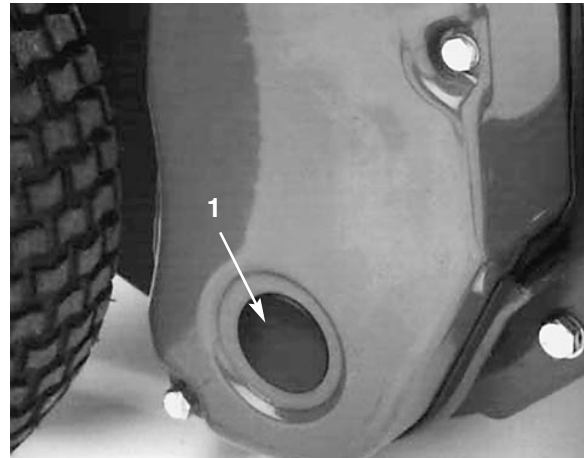

Figure 40
- Remove plug in right reel drive cover (Fig. 40)